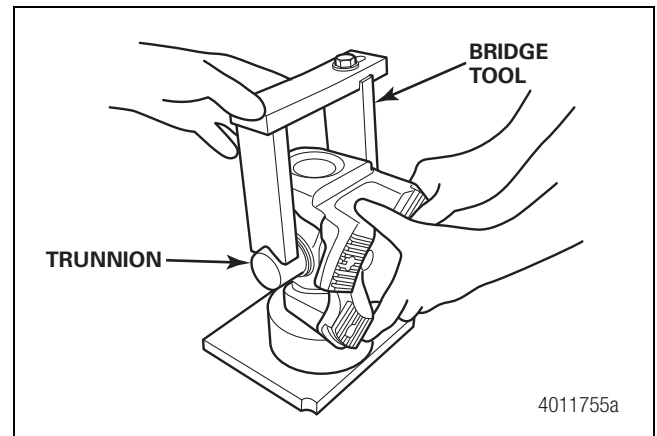

Figure 4.58
- Install the press bridge tool and press DOWN. Figure 4.58.